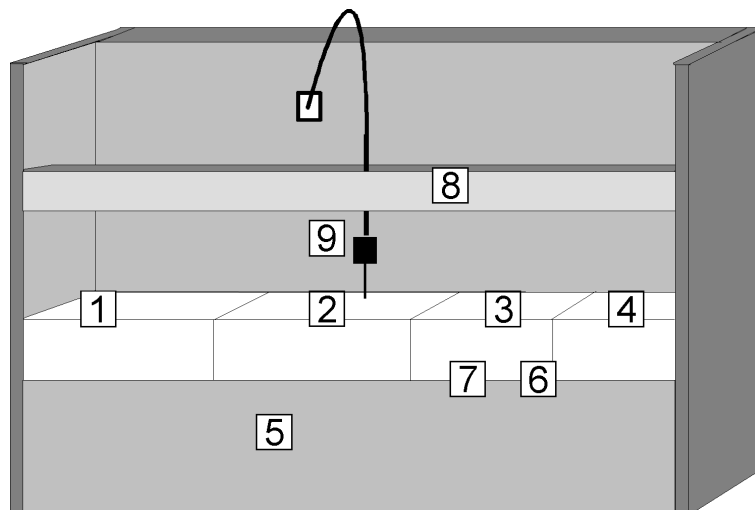

Figure 6-1: **ELISYS QUATTRO** - Instrument modules
The wash head is part of the wash unit located in drawer (5) (see figure 6-1: on page 6-4). If the wash function is not longer adequate, you have to clean the needles of the wash head.